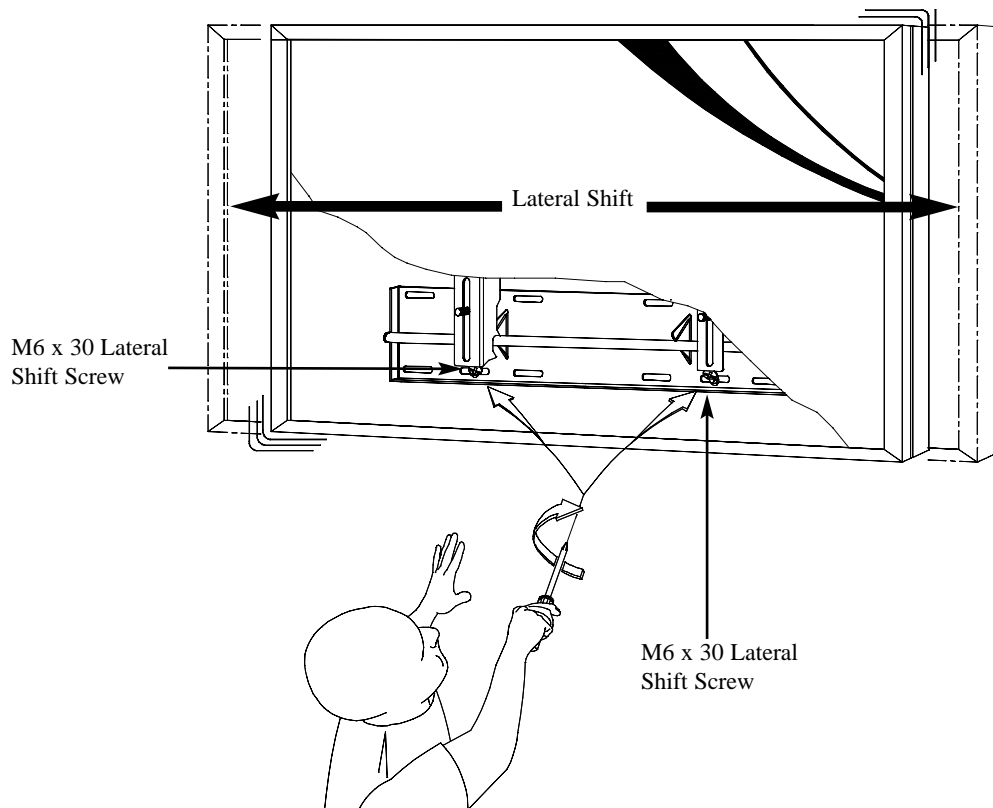

Figure 16
2. Make any lateral shift adjustments and lock the display in place by tightening the two (2) M6 x 30 (mm) Phillips screws found on the bottom of the mounting brackets (Figure 16).